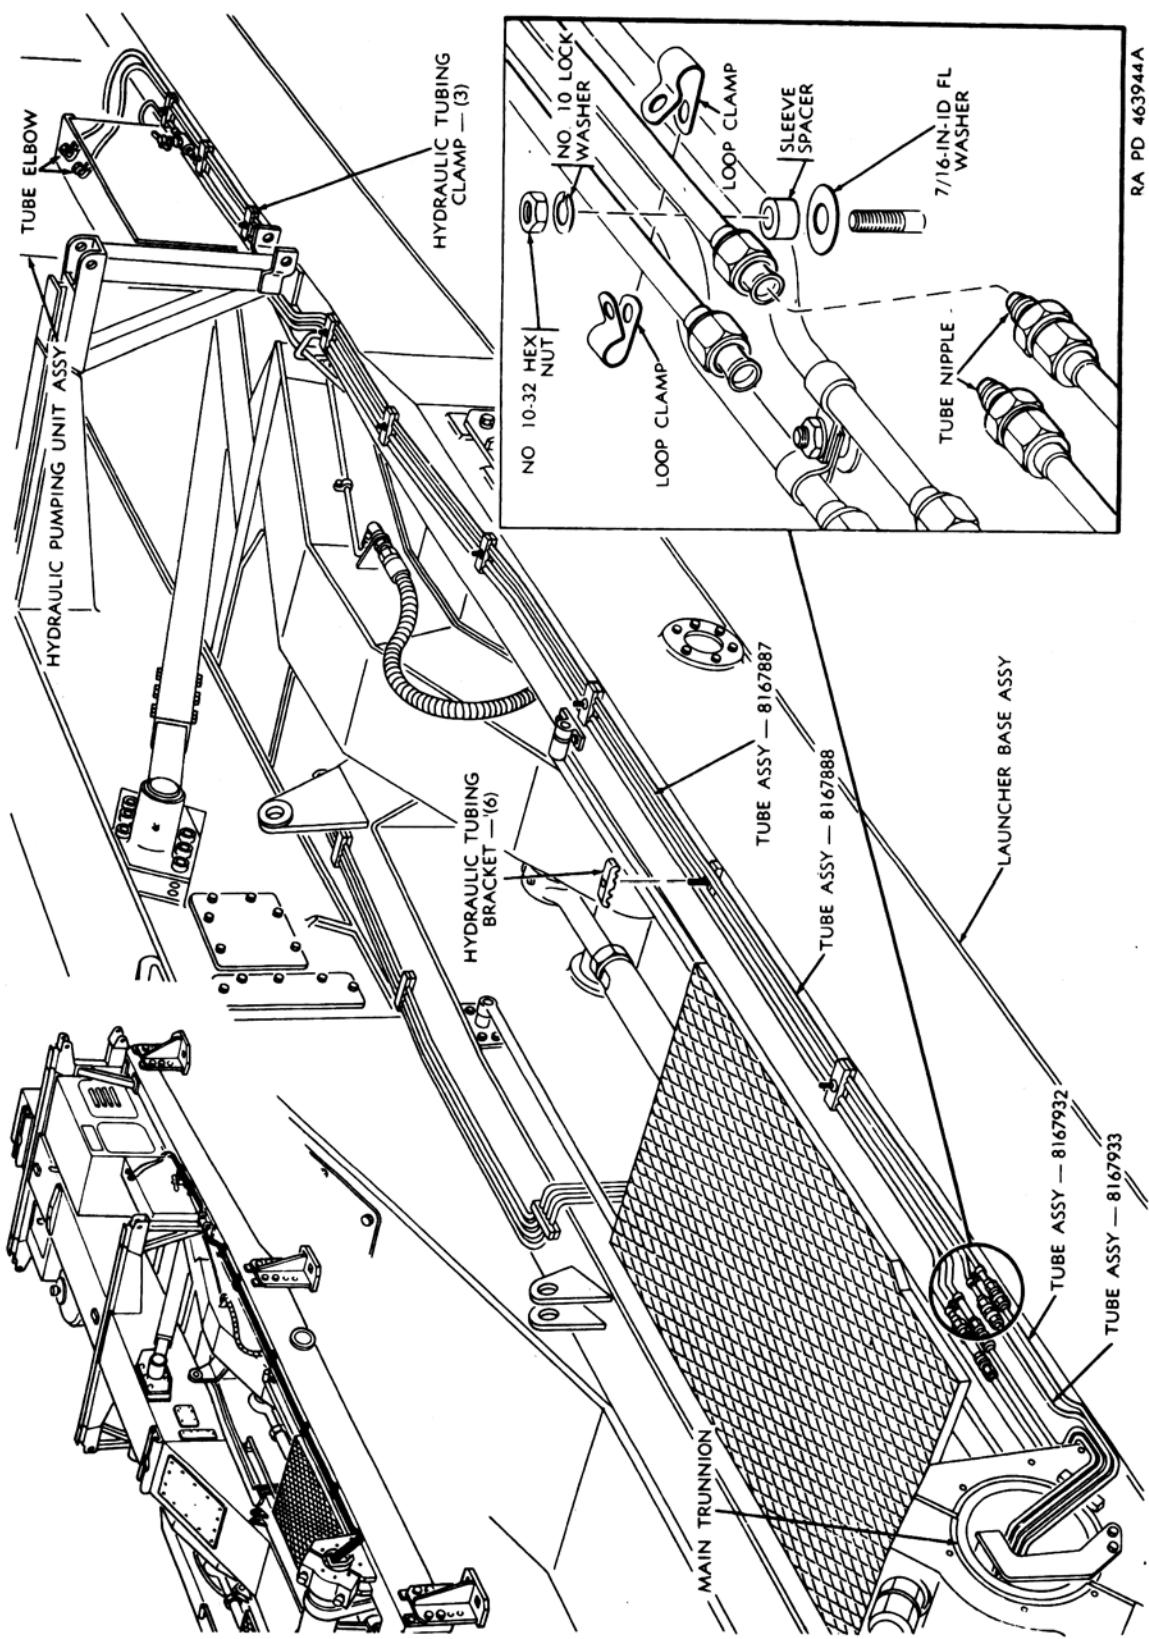

Figure 186. Locking wedge system hydraulic network—removal and removal and installation—continued.
- (6) Disconnect the four tube assemblies (fig. 186) on the right side of the launcher base assembly. Cap all open lines.
- (6) Connect four tube assemblies (figs. 186 and 204) on launcher base assembly and torque coupling nuts to 300 pound-inches.
- (5) Remove hydraulic tubing brackets (fig. 186) and loop clamps.
- (6) Remove tube assemblies and tube nipples. Cap all open lines.